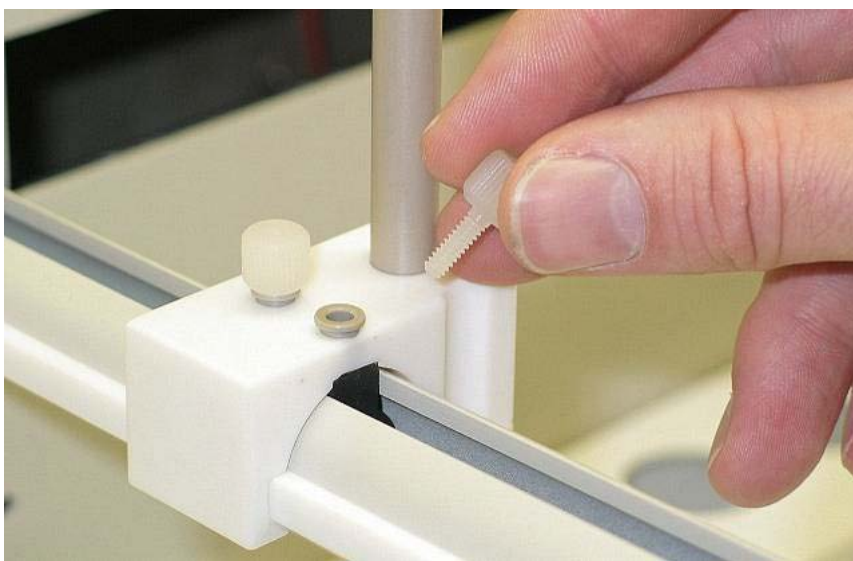

Figure 1-6 View of Y-axis home block with Kynar thumbscrews (ASX-260 and ASX-520).
2. Remove the two Kynar thumbscrews from the Y-axis home block (Figure 1-6).